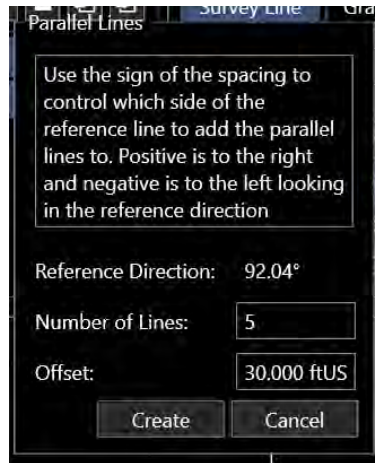

FIGURE 10-8 PARALLEL SURVEY LINE CONFIGURATION
4. The parallel popup box is displayed, as shown in Figure 10-8